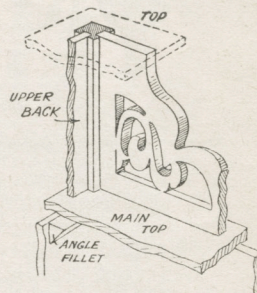

Fig. 4—Detail of corner
The top (E) is a plain square 17ins. by 12½ins., ¾in. thick, with the edges just taken off. When this is being secured to the panelling care should be taken to see an even margin is left all round. Pieces of angle fillet about ½in. or ¾in. in section may be glued round inside the framing for additional strength as shown in Fig. 4.
the two pieces of grooved moulding must be cut and the whole glued up as Fig. 4 shows.